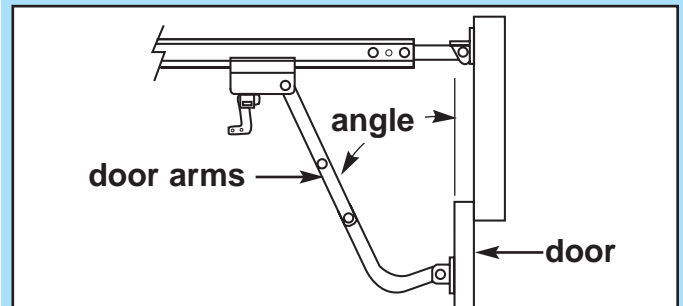

FIG. 2-11 Door arms at angle to door.
**NOTE:** Whenever possible, it is recommended that the door arms assembly be angled away from the door to prevent putting downward force on the door and door bracket. (**Fig. 2-11**).